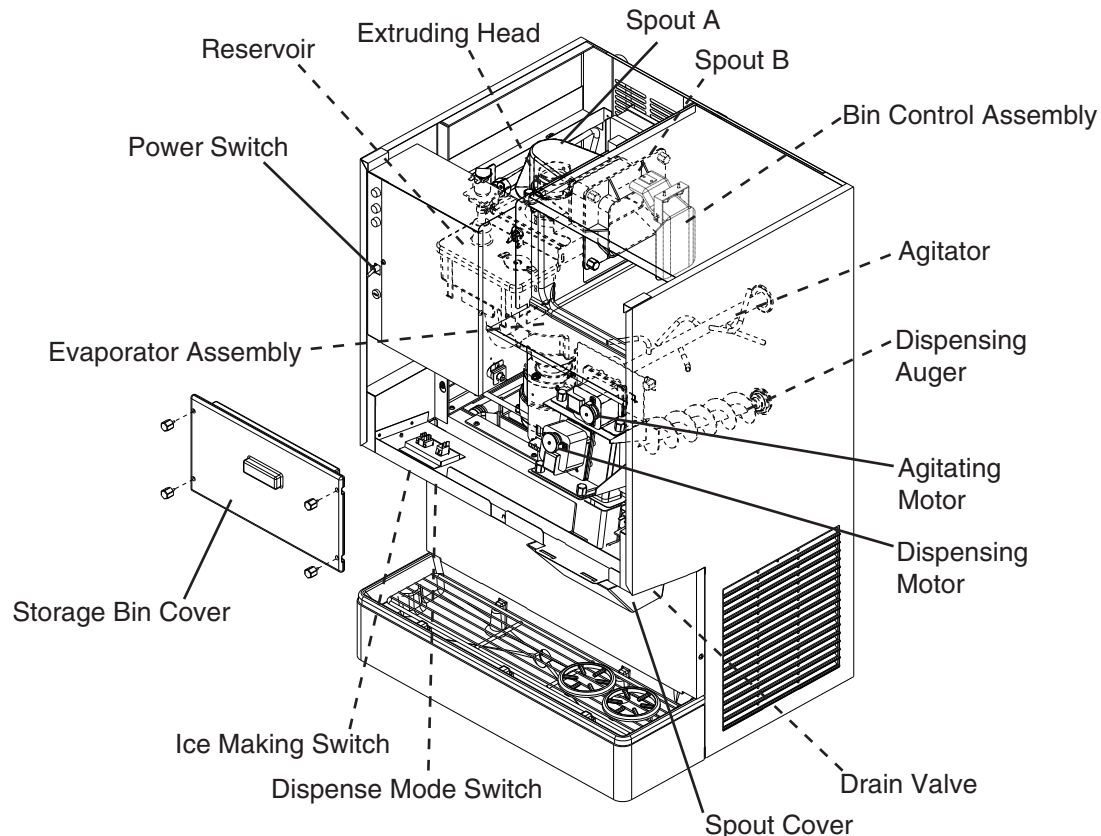

Fig. 5
1. Move the ice making switch to the "OFF" position. See Fig. 5.
4. Remove the motor bracket thumbscrews from the vertical plane, then loosen the motor bracket thumbscrews on the horizontal plane. While holding on to the corresponding agitator or auger, move the agitating motor or the dispensing motor towards you. Remove the agitator and the dispensing auger from the storage bin. See Fig. 5.